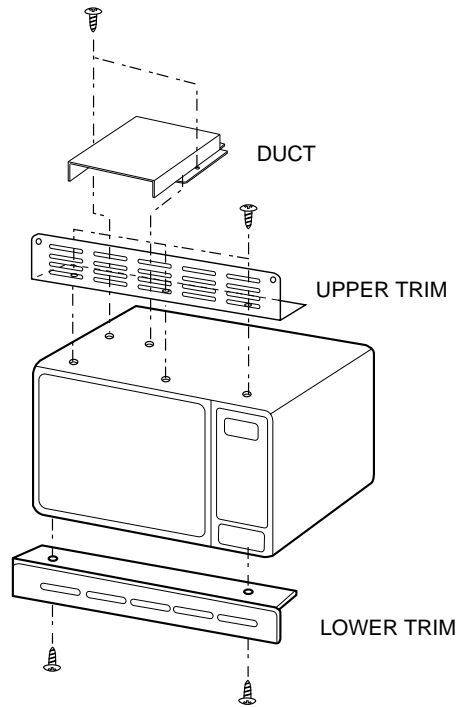

FIGURE 4
2. MOUNT THE UPPER TRIM ON THE OUTER CASE USING THREE 8 mm SCREWS. AND THEN MOUNT THE DUCT ON THE OUTER CASE USING TWO 8 mm SCREWS. SEE FIGURE 4.
3. REMOVE TWO SCREWS FROM THE FRONT OF BASE PLATE. MOUNT THE LOWER TRIM ON THE BASE PLATE USING TWO 8 mm SCREWS. SEE FIGURE 4.